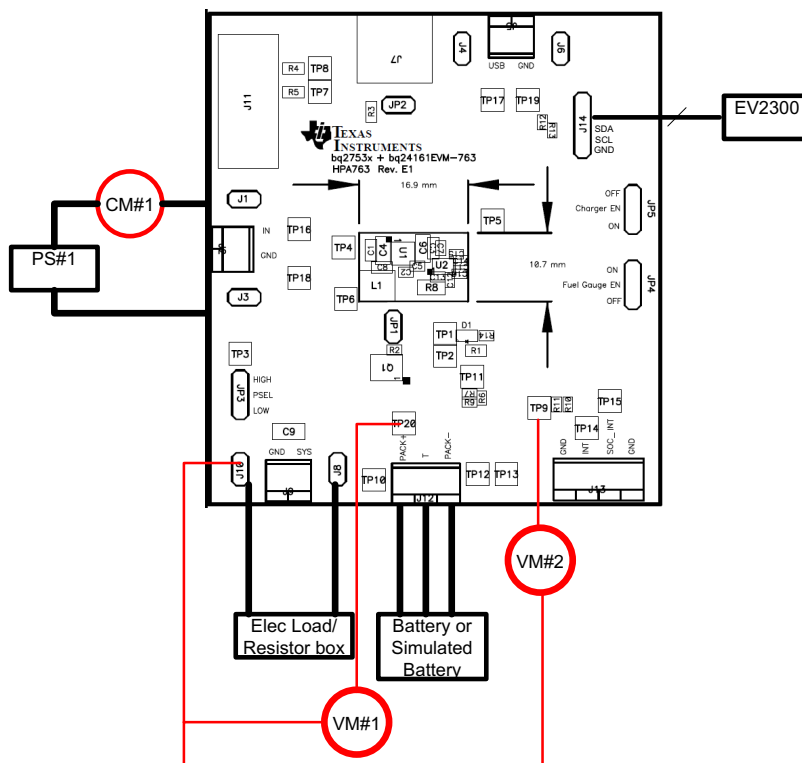

Figure 8. Original Test Setup for bq24160/161/163/168EVM (HPA721)
3. If BAT_Load as shown in Figure 8 is used, connect Power Supply #2 (PS #2) set to approximately 3.6 V to the input side (PS #2+/-) of BAT_Load, then turn off PS #2.
9. After the preceding steps have been performed, the test setup for HPA721 is configured as is shown in Figure 8